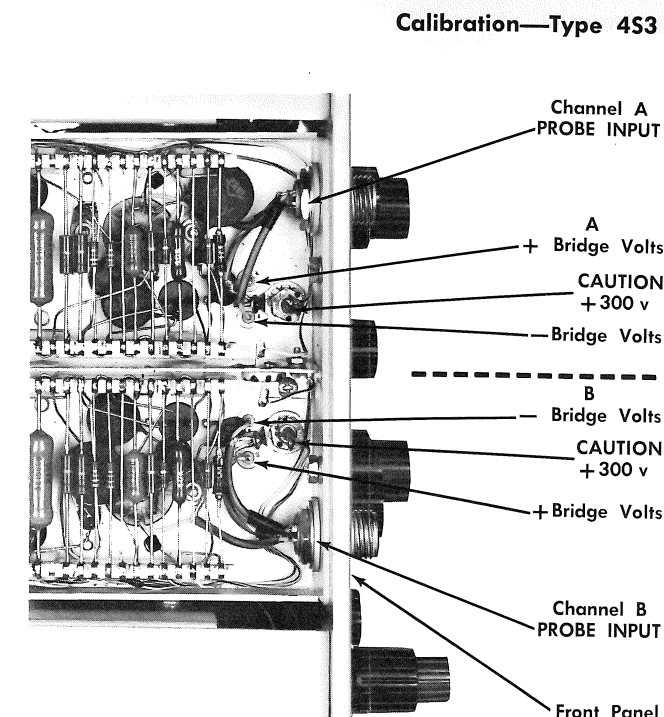

Fig. 5-6. Bridge-volts test points, located underneath  $4\frac{1}{4} \times 4\frac{3}{4}$  preamplifier bottom shield.
- Use the test oscilloscope and 10X probe, dc coupled, to measure the bridge volts at the four test points shown in Fig. 5-6. (Do not measure these voltages with the 20,000 ohm/volt meter.) Minimum voltage at each test point is 1.5 volts + or -. If any bridge-volts test point has less than 1.5 volts (+ or -), do the following: